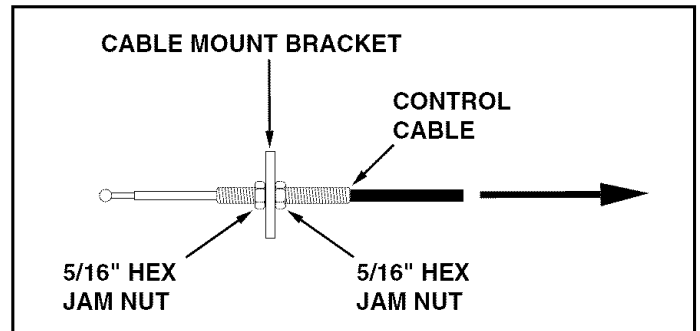

FIGURE 23
- If the blade will not unlock and pivot, the angle lock bars are not disengaging from the slots in the pivot plate. To correct, adjust the 5/16" hex jam nuts to draw the end of the control cable back towards the cable mount bracket. The less the threaded end of the cable extends through the bracket, the more the angle lock bars can retract to disengage from the slots in the pivot plate. See figure 23.